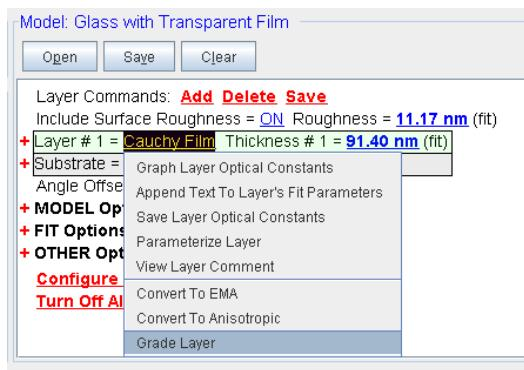

Figure 3-50. Right-click on Cauchy Film to access drop-down menu, then choose to Grade Layer.
- ( $\text{C}\text{R}$ ) on the name “Cauchy Film” of Layer #1. You should see a drop-down menu, as shown in Figure 3-50. Choose “Grade Layer”.